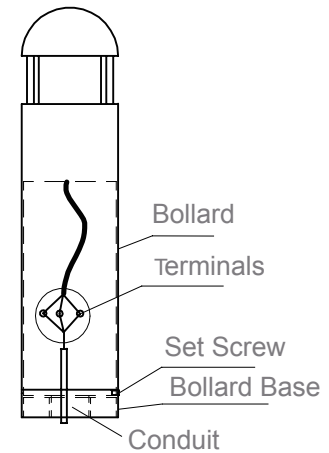

Figure4
7. Slide the Bollard over on Bollard Base. Be sure to check the LED position on the Bollard. See Figure 4.
8. Replace the Set Screws (3) to secure the Bollard to the Bollard Base. See Figure 4.
1. Remove the (3) screws on the pole to remove the fixture head. See figure 4.
2. Select desired wattage or CCT by the DIP switches. See figure 4 and 5.
3. Fasten the fixture head back to the pole by the removed (3) screws.